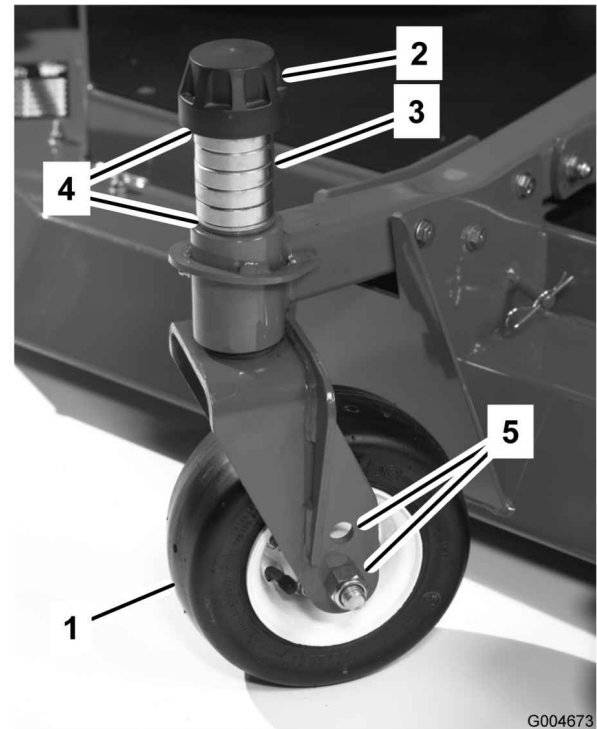

Figure 14
3. Remove the tensioning cap from the spindle shaft (Figure 14) and slide the spindle out of the castor arm. Put the 2 shims (1/8 inch [3 mm]) onto the spindle shaft as they were originally installed. These shims are required to achieve a level across the entire width of the cutting units. Slide the appropriate number of 1/2